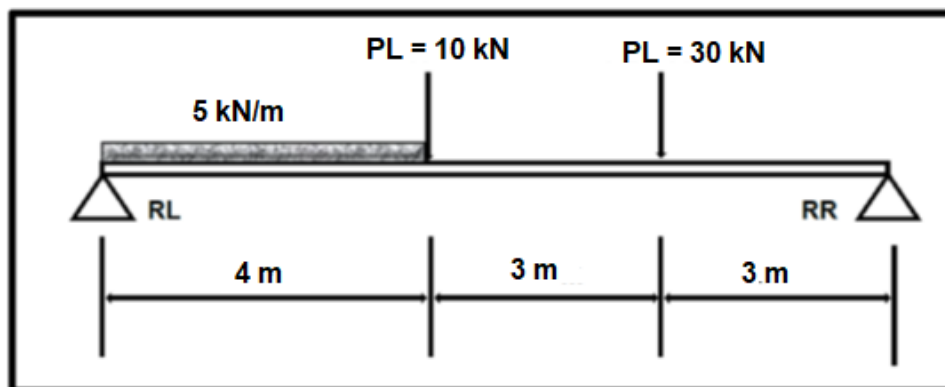

FIGURE 8.3
- 8.3 FIGURE 8.3 below shows a uniform beam that is supported by two vertical supports, **RL** and **RR**. Two vertical point loads are exerted onto the beam, as well as a uniformly distributed load of 5 kN/m, over a length of 4 m of the beam.